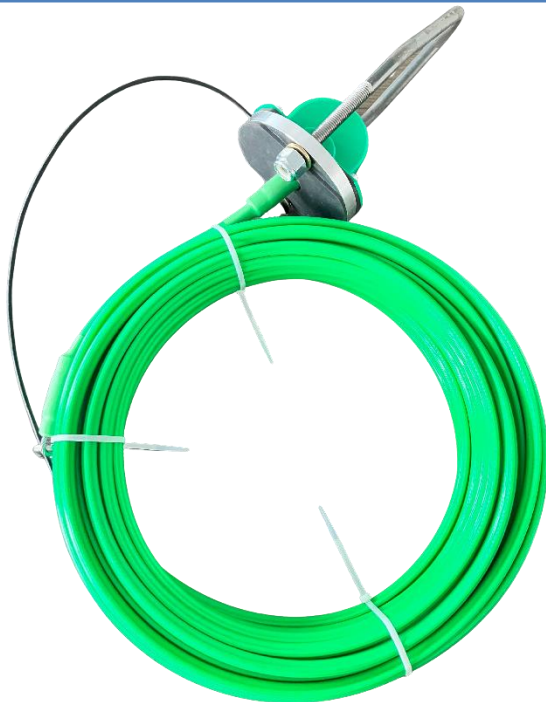

Figure 1 – Sensing Cable Coil
- The PDR/SDR hanging cable comes out of the package in a coiled loop. (figure 1) This loop is intended to be your shoulder strap to make it easier to carry up the ladder to the installation point. When the installation point has been chosen, secure parts and equipment adequately to avoid potential damage to equipment, the bin, or personal injury. Once the PDR/SDR hanging cable is properly installed as detailed below, remove the securing cable tie from the short connector cable and plug in as required.